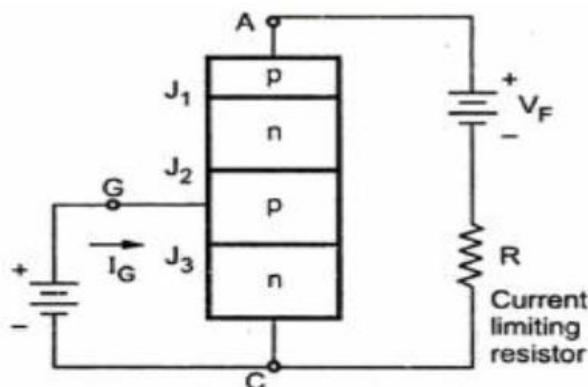

**Fig. 5.17 Operation of SCR when Gate is open**
- This is shown in the Fig. 5.17 (a).
- This is shown in the Fig. 5.17 (b).